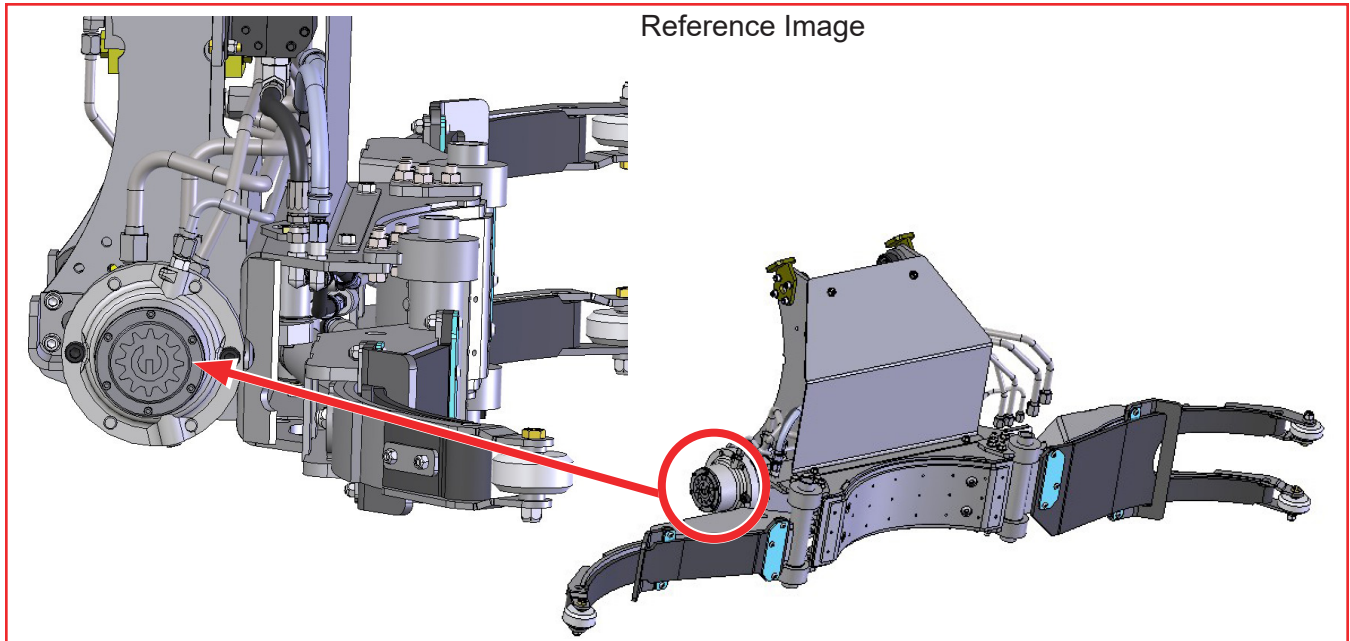

Figure 1
4. Locate the brake clutch end cap cover assembly on the grabber carriage (Figure 1 shows reference location).